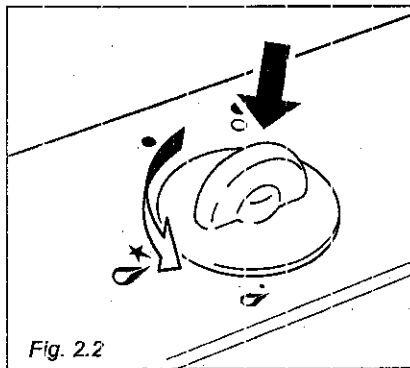

Fig. 2.2
- 1 – Turn the knob fig. 2.2 in anti-clockwise direction up to the maximum aperture (symbol ) , push in and hold the knob; this will light the gas. In case of black-out, bring a lighted match close to the burner.